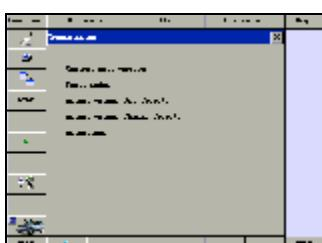
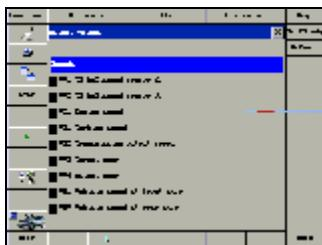

Fig.3.20
Fig.3.21
16. Select either **Control unit version**, **Fault codes**, **Actual values (All select)**, **Actual values (Manual Select)** or **Actuations** as shown in Fig. 3.20. Here we select **Actual values (All select)** to explain the self-study and actual value review as shown in Fig. 3.21.